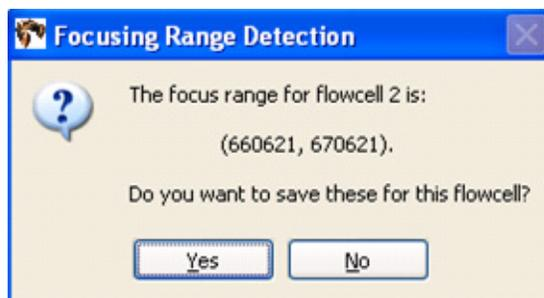

Figure 53 Confirm that you want to replace the local settings file.
5. When the Imager is done, a dialog appears (see Figure 53 on page 69). Click **Yes** if you want to replace the values in the local settings file. Click **No** if you want the Imager to discard the newly calculated focus range.